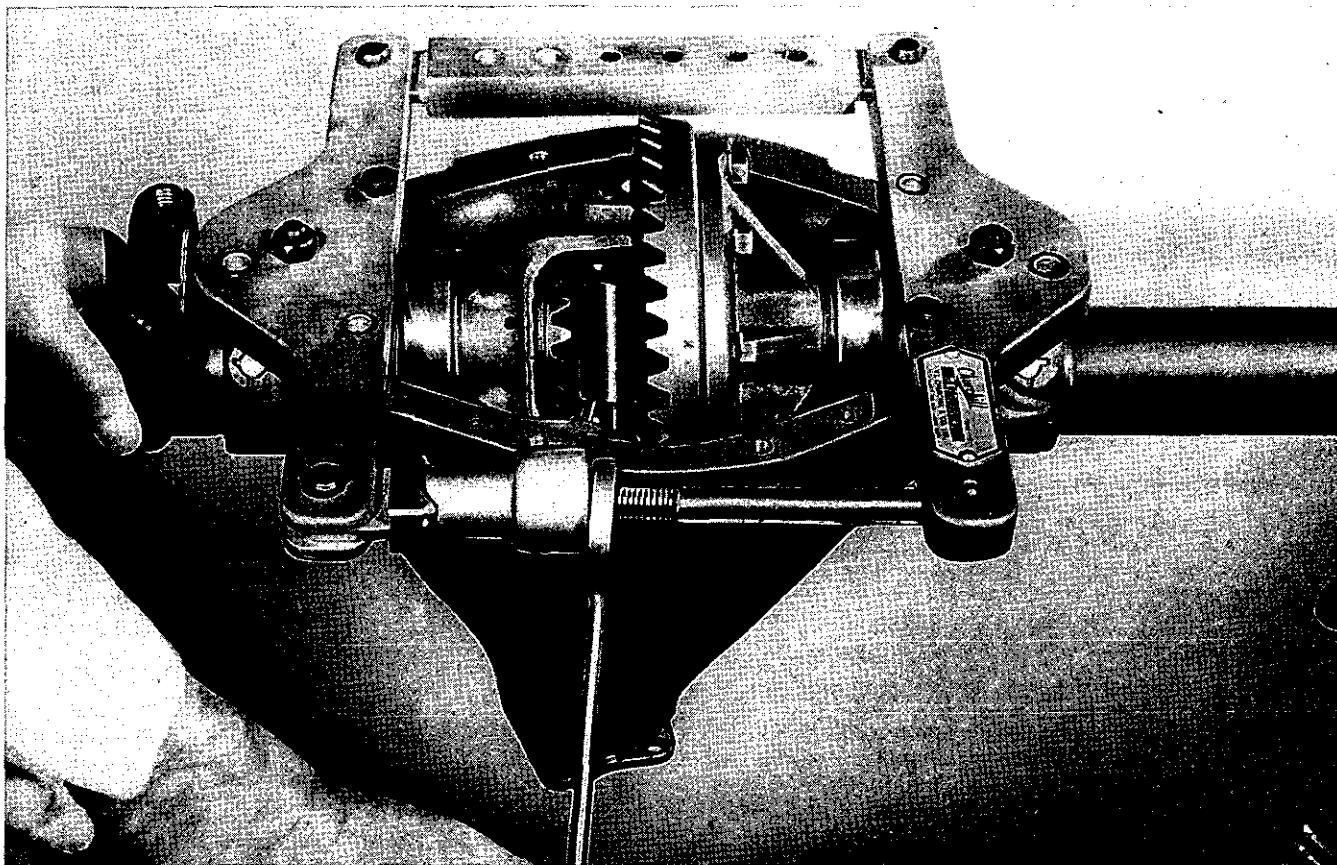

Fig. 8. Casing Spreader in Use, Tool No. SK/S939.
9. Apply axle casing spreader as shown in Fig. 8 and prize differential assembly out of axle, taking steps to protect the machined face against which the cover fits. "Spreading" should be limited to that required to just free the assembly in the casing.